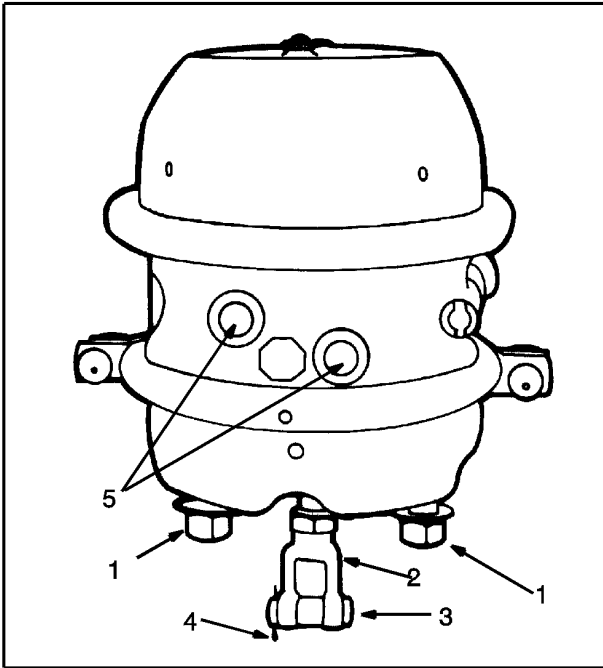

Figure 14 Remove Spring Brake Assembly
2. Remove the cotter pin from the yoke pin, knock out the yoke pin, and remove both air lines from the assembly (Figure 14(See Figure 14, page 12)).
3. Using a 15/16-inch wrench, loosen hex nuts (Item 1, Figure 14(See Figure 14, page 12)) on mounting studs and cautiously remove the chamber from the mounting bracket.
2. Remove the hex nuts (Item 1, Figure 14(See Figure 14, page 12)) and the flat washers on the mounting studs of the new chamber, clean the face of the mounting bracket and install the chamber on the bracket with close attention given to positioning the chamber air inlet ports for correct alignment to the vehicle air lines. Then install one flat washer and hex nut (Item 1, Figure 14(See Figure 14, page 12)) on each mounting stud and using a 15/16-inch wrench (**DO NOT USE AN IMPACT-TYPE WRENCH**), tighten nuts to **100 to 115 ft-lbs. (136 to 156 N•m) torque.**
5. Apply Teflon tape or sealing compound to the hose fittings (Item 5, Figure 14(See Figure 14, page 12)) and re-install both of the air lines to the chamber being sure each is mated to the correct air inlet port according to markings made earlier. **Tighten fittings to 25 ft-lbs. (34 N•m) torque into the chamber air inlet ports.**
6. Using vehicle system air, charge the spring brake with full line pressure (minimum 100 psi). Using only soapy water (NEVER ANY TYPE OF OIL!), inspect for air leaks at the air lines and fittings. If bubbles appear, **tighten fittings (Item 5, Figure 14(See Figure 14, page 12)) slightly, but not over 30 ft-lbs. (41 N•m) torque.**
7. Apply Teflon tape or sealing compound to the hose fittings (Item 5, Figure 14(See Figure 14, page 12)) and re-install both of the air lines to the chamber, being sure each is mated to the correct air inlet port according to markings made earlier. **Tighten the fittings to 25 ft-lbs. (34 N•m) torque into the chamber air inlet ports.**